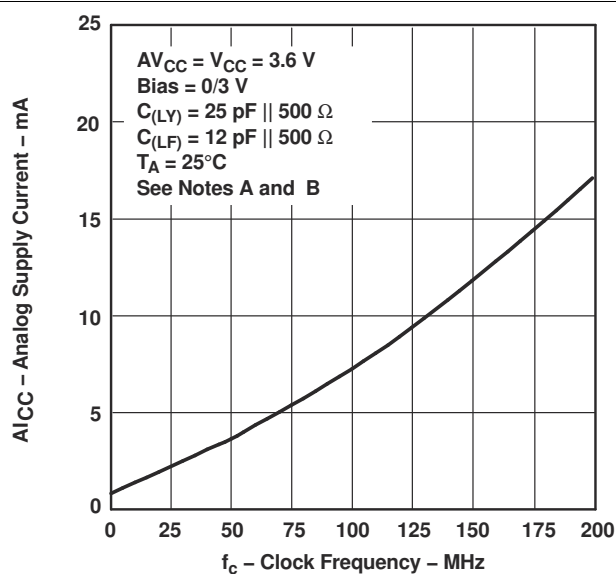

Figure 4-6. Analog Supply Current vs Clock Frequency
(1) For conditions shown as MIN or MAX, use the appropriate value specified under the *recommended operating conditions* section.
(2) For dynamic I_{CC} vs Frequency, see Figure 4-6 and Figure 4-7.